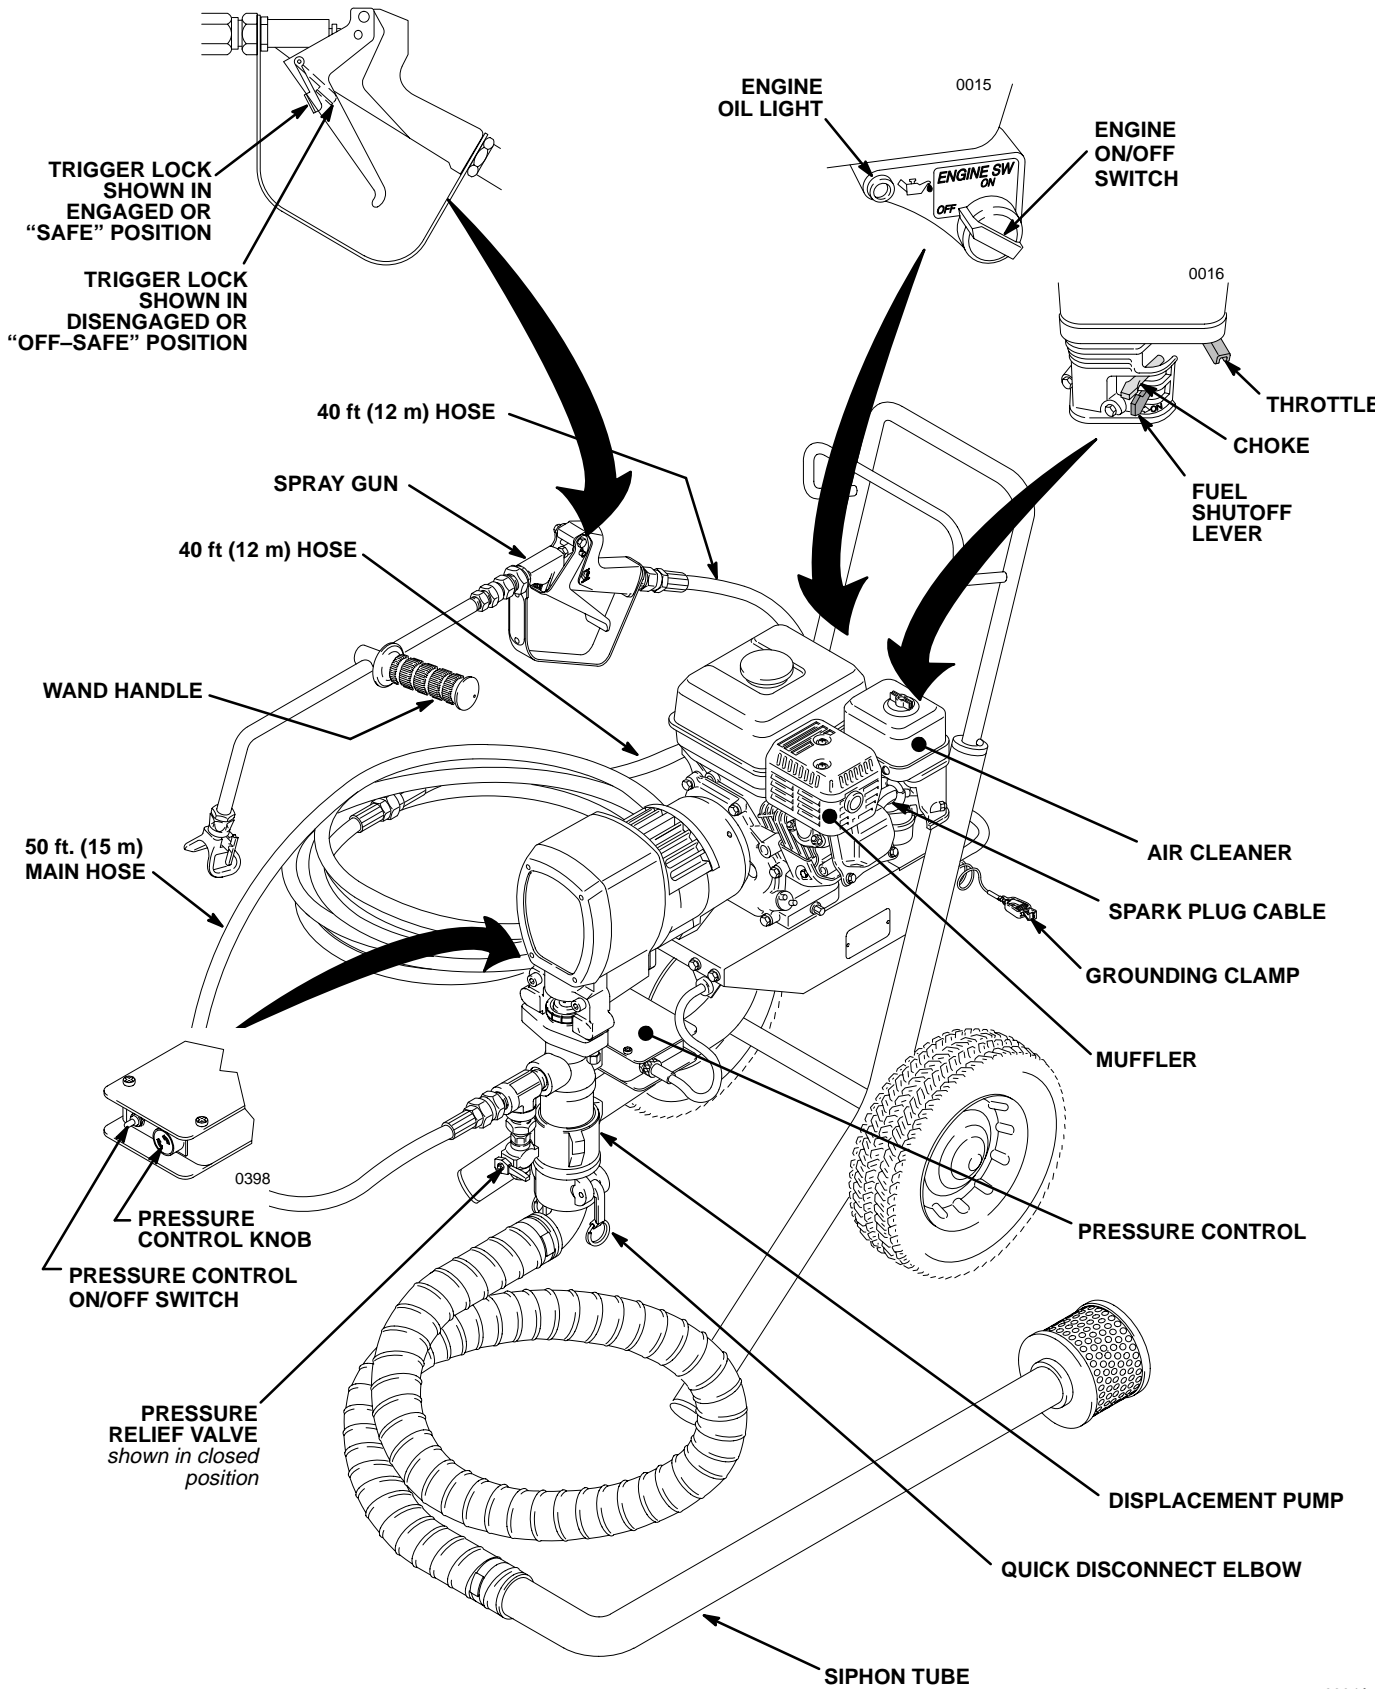

Fig. 1
4. **Check the engine oil level.** Refer to the Honda engine manual, supplied. In summary: remove one oil fill plug – the oil should be almost overflowing. See Fig. 1. Add oil as necessary. Also read the MAINTENANCE section on page 15.